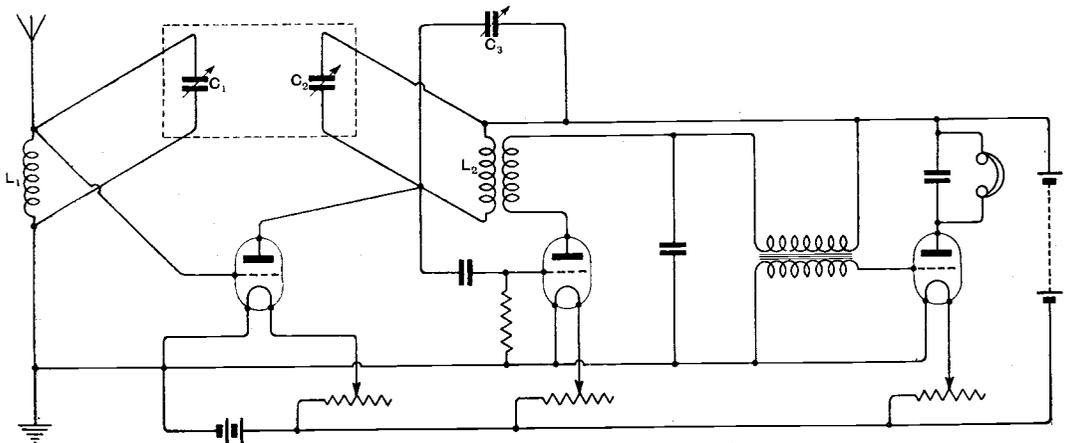

Fig. 8. Schematic wiring diagram.
of this description is the "centre-zero balancing condenser." The functions of this condenser can best be seen by an inspection of the schematic connection diagram of the set which is given in Fig. 8. This diagram gives only the essential features, omitting details of range, switches, etc. It will be noted that  $C_1$   $C_2$  is the double variable tuning condenser which has just been described. The balancing condenser is  $C_3$ . It is connected across the anode circuit tuning condenser  $C_2$  in the same way that the aerial is connected across the primary tuning condenser  $C_1$ . This balancing condenser
- (1) Balancing of aerial capacity when aerial is changed.
- (2) Balancing the changes in the effective capacity of the aerial for different wavelengths, giving a vernier adjustment to the tuning.
- (3) Balancing out any differences between the two tuning coils  $L_1 L_2$  (Fig. 8) on the different tapings.